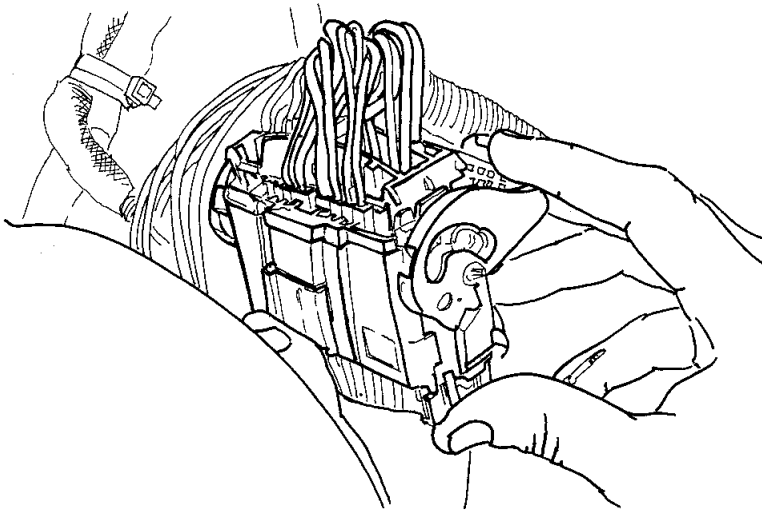

Figure 3 Forty Pin Connector: Rotate Lever
5. Disconnect the 40 pin lever lock connector by rotating lever and separating connector (Figure 3). Carefully cut any ty-wraps that may be in the way.